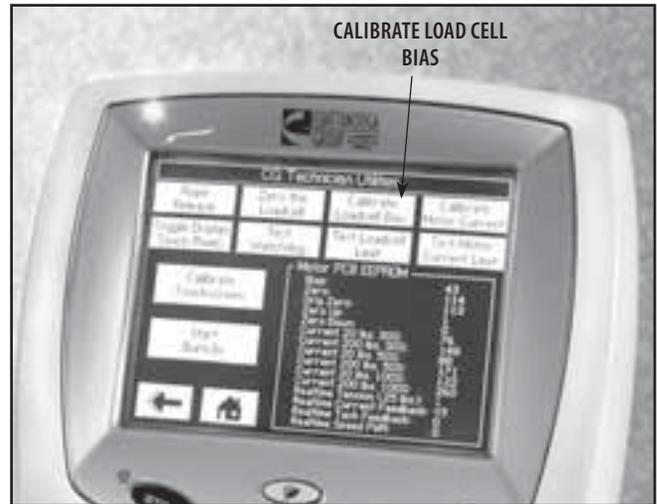

FIGURE 7.6
- 11. Press Calibrate Load Cell Bias on the Touch Screen. See Figure 7.6.